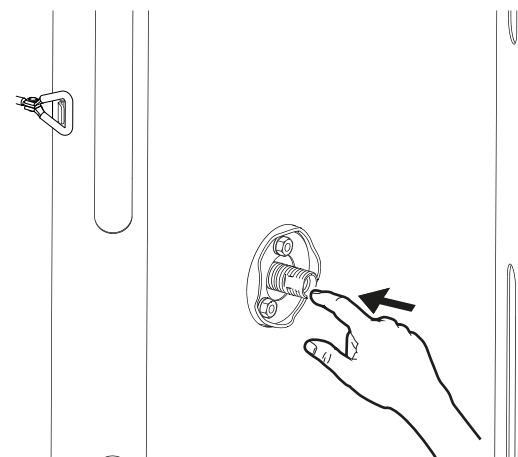

Fig. 25
3. Push the air nozzle into the filter (Fig. 25).